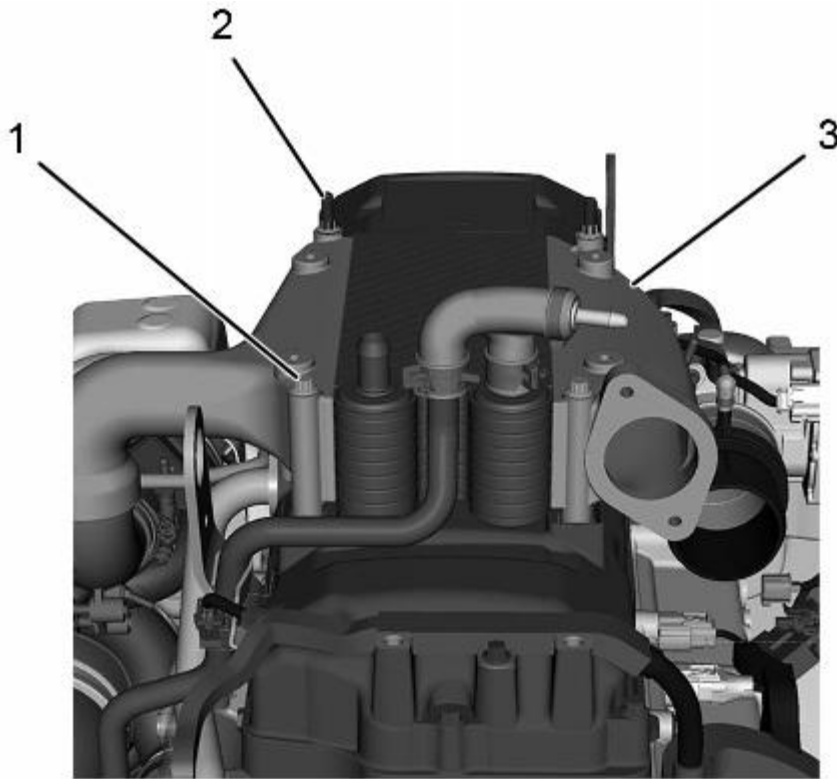

Figure 5. Interstage Cooler (ISC).
14. Remove two bolts (Figure 5, Item 1) and stud bolts (Figure 5, Item 2) from Interstage Cooler (ISC) (Figure 5, Item 3).